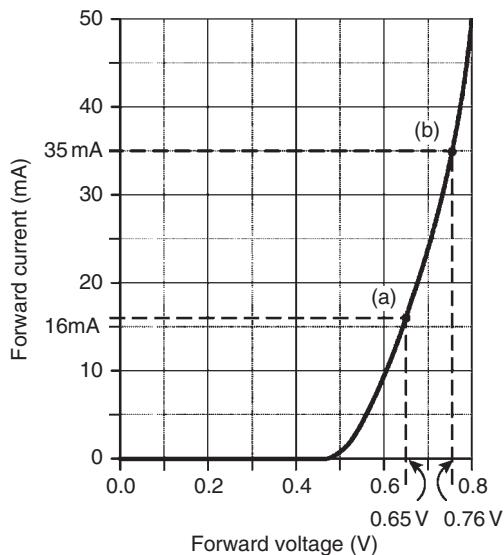

Figure 11.12
The  $I/V$  characteristic is shown in Fig. 11.12. Since the device begins to conduct when a potential of approximately  $0.6\text{ V}$  is applied to it we can infer that **the semiconductor material is silicon** rather than germanium.
**Problem 6.** For the characteristic of Fig. 11.12, determine for the device (a) the forward current when the forward voltage is  $0.65\text{ V}$ , and (b) the forward voltage when the forward current is  $35\text{ mA}$ .
- (a) From Fig. 11.12, when the forward voltage is  $0.65\text{ V}$ , **the forward current = 16 mA**